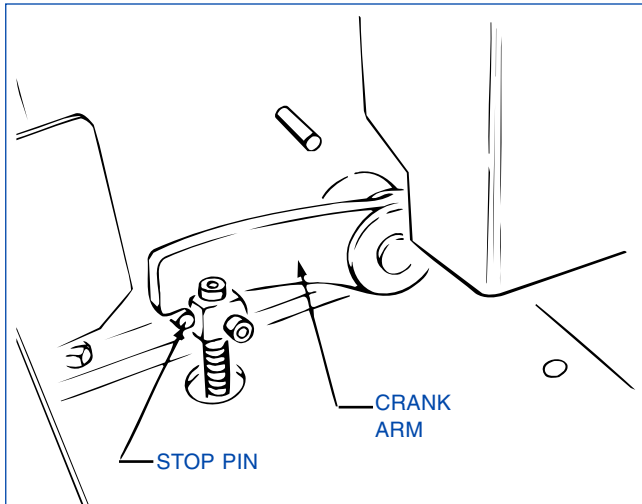

FIGURE 3-2, Stop Pin
13. Slowly depress Pedal until Crank Arm hits Stop Pin (see Figure 3-2), meanwhile stroking fixture forward and back on honing unit. If bore is rough or out-of-round do not depress Pedal fully until bore has smoothed up, as evidenced by demising vibration.